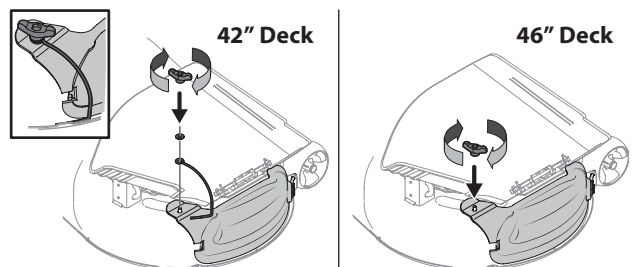

Figure 6
- 42" Deck:** Slide the mulch plug wire over the pin on the deck's surface, position the flat washer over the wire, and secure the mulch plug with the wing knob. See Figure 6.
NOTE: Make sure the wing knob is snug, and the wire is positioned inside the lip of the deck to keep the mulch plug securely in place. See inset in Figure 6.
- 46" Deck:** Secure mulch plug with the wing knob. See Figure 6.